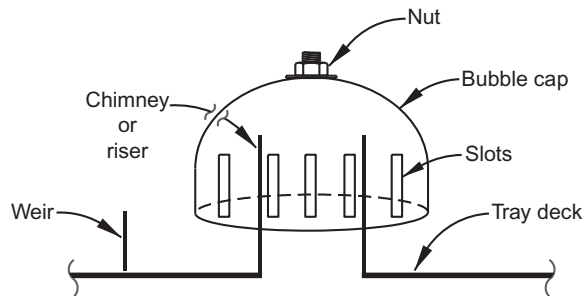
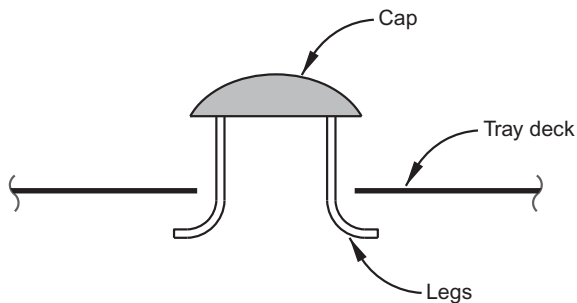

FIG. 2.3 Bubble cap. Note that top of riser is above top of weir to prevent tray deck leakage.
FIG. 2.4 Valve tray is subject to leakage.
Before the 1950s, when bubble cap trays were used (see Fig. 2.3), this was not a problem. Bubble cap trays don't leak even when moderately out of level. But now, we use valve trays (see Fig. 2.4) in most distillation towers. Valve trays have a movable cap that is pushed up by the force of the upflowing vapor. When that upward force is too little, the valve cap is supposed to fall closed to prevent the tray from leaking.
I've shown a sketch of a valve tray in Fig. 2.4. The two main problems with this valve cap design are as follows:
- Valve trays (see Fig. 2.4)
- Bubble cap trays (see Fig. 2.3)
In the 1950s, when we still used “Bubble Cap” trays (Fig. 2.3), tray deck leakage was not an issue. But with perforated trays (even valve trays), it’s a big problem in that trays in large diameter refinery fractionators are not all that level. And, with time, trays become progressively less level.